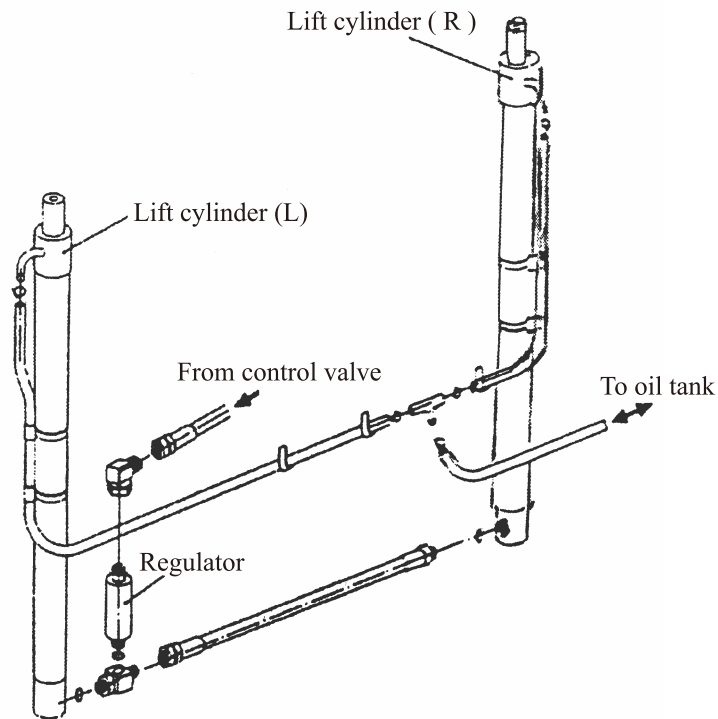
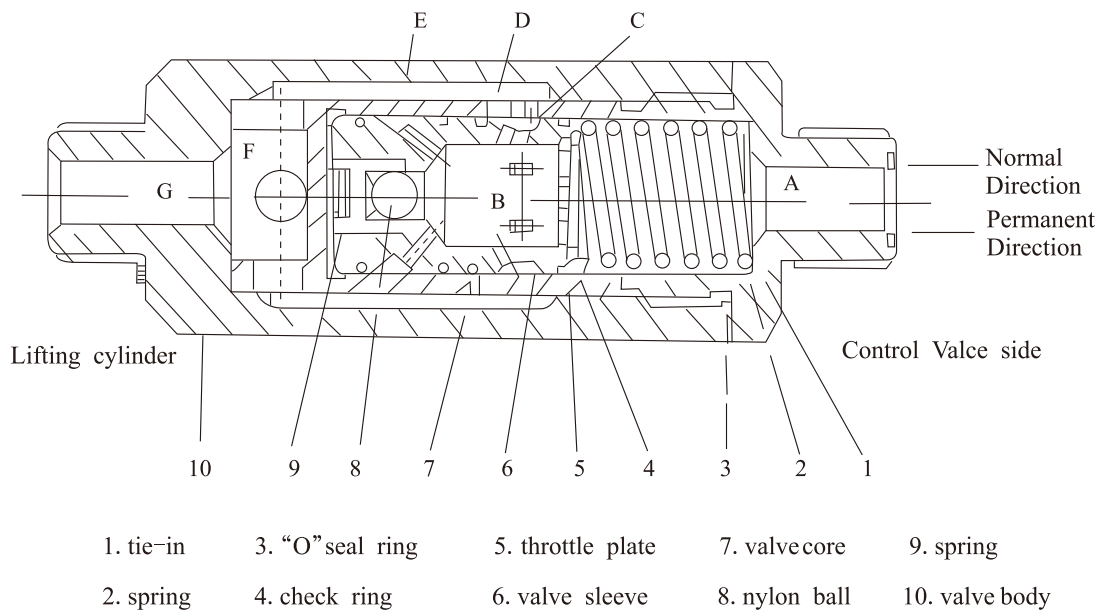

Fig. 8-3 Regulator mounting position
Fig. 8-4 Flow regulator valve(12t truck)
The flow regulator valve is located between the control valve and the high pressure ports of the two lift cylinders, near the left cylinder (See Fig. 8-3). The structure of the flow regulator valve as shown in Fig. 8-4. No.3 in Fig. 8-4 is coil spring for 12 ton forklift trucks.
See Fig. 8-4. With the forks upraised, high pressure oil led from the control valve flows into the chamber(A) and shifts the sleeve (2) to the left. This opens the opening (G) to allow the high pressure oil to flow along the two routes(A-B-C-D-E and A-B-C-D) and both flows of oil lead to the lift cylinders. In this case, the flows of oil is not regulated. When the forks begin to lower oil discharged from the lift cylinders enters the chamber(E) and shifts the sleeve unit it contacts the nipple. This closes the opening (C) so that oil flows through (E), (D),(H),(C),(B)and (A) to the tank. If the amount of oil discharged from the lift cylinders is rapidly increased, the pressure in the chamber (F) rises and moves the piston (5) to the right in spite of the spring force, narrowing the opening (H). So the flow of oil from the chamber (D) to the chamber (C) is decreased so that the descending speed of the forks is controlled.